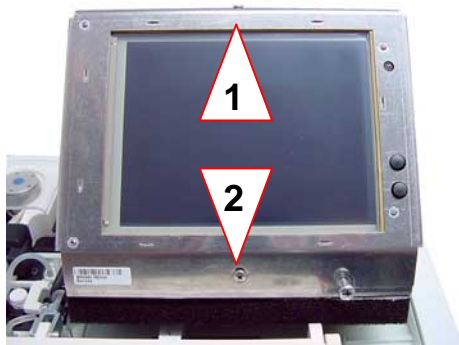

Fig. 3-42 Screen
6. Remove the two screws of the screen (see Fig. 3-42, 1 and 2).